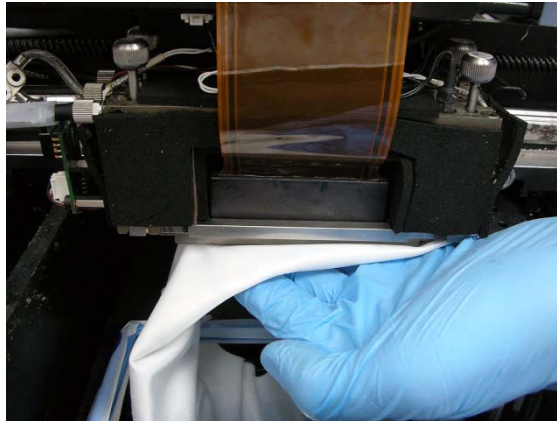

Figure 6-29: Cleaning the heads
9. Clean the orifice plates, with a back-and-forth motion (see figure 6-29). Use the mirror to make sure that you have removed all of the residue material.